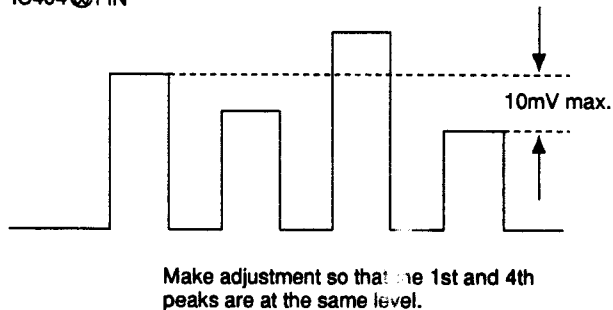

Fig. 5-18
2. Connect the probe of an oscilloscope to IC404 ④ PIN or TP402.
4. Adjust **CHROMA NTSC 358 NOR** so that the peaks of waveforms will be flush with each other as shown in Fig.5-18.
- 2) Adjust **CHROMA NTSC 358 ACC OFF** in the same way as 10-4. shown above. (Fig.5-18)